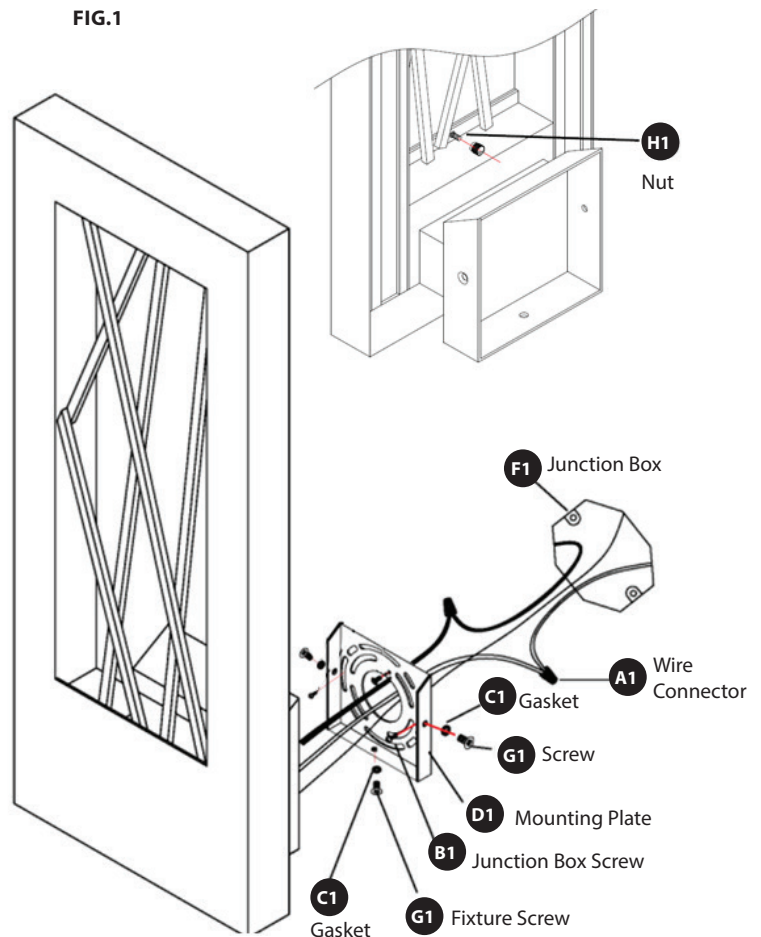

Fig.2 Wiring
CONNECTING THE WIRES (FIG.2)
4. Connect the electrical wires as shown in Fig. 2, making sure that all wire connectors (A1) are secured. Fixture and junction box ground wires should be connected to mounting plate using green screw provided. Tuck wires carefully inside the junction box.